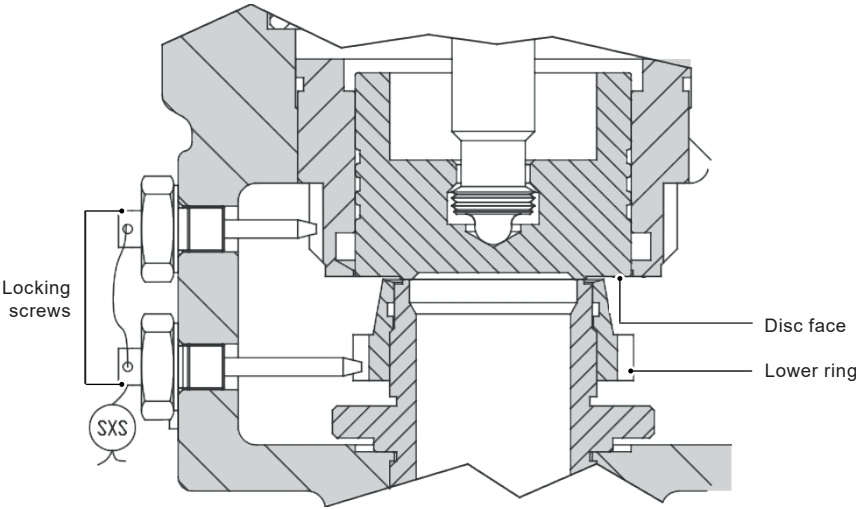

Fig. 3
5. Move the lower ring (3) upwards (anti-clockwise) until it contacts the face of the disc (Figure 3).